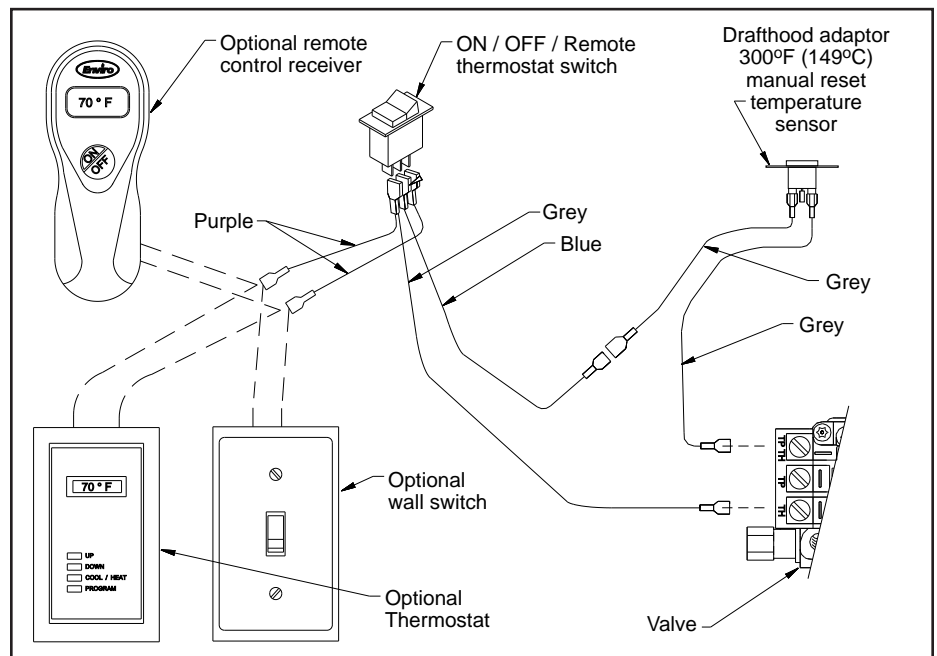

Figure 43: Wiring Diagram for Electrical Connection.
3. Being careful not to run any wiring tight across metal edges; connect them to the valve and "ON/OFF" switch (refer to Figure 43).
The fireplace connections are labelled in Figure 43. When installing the Draft Hood Adaptor onto a fireplace fitted with an optional wall switch or an optional thermostat, remove one wire
from the switch to the gas valve and connect the Draft Hood Adaptor harness as shown in Figure 43.
2. Disconnect the spill switch wires from the valve and on/off/remote rocker switch wire (see Figure 43).